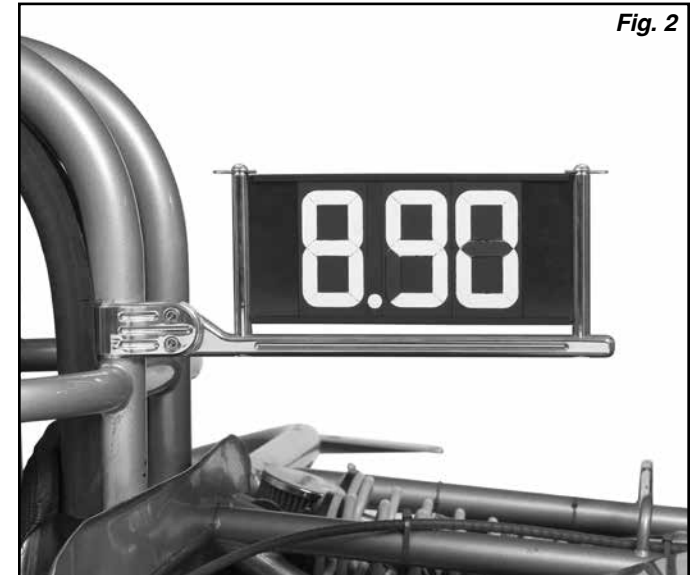

Fig. 2
**Step 2:** Set the mount ears and Dial-In Board to the desired angle and tighten the bolts. See Fig. 2 for a finished installation.